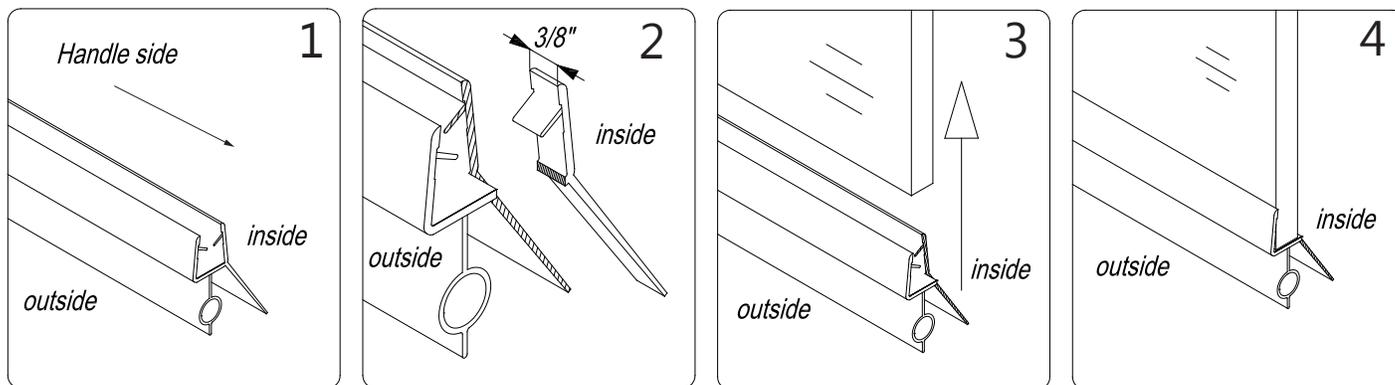

Fig 12
10. Measure the bottom of the **Door Glass (#02)** from end to end to determine the actual width. Using a razor knife, cut the **Bottom Anti-Water Strip (#13)** to the size of your measurement and notch approximately 3/8" off of the inner side of the **Bottom anti-water strip** as shown in **Fig. 12.2**. Press the **Bottom Anti-water strip** tightly onto the bottom edge of the **Door Glass (#02)**. (**Fig 12**)